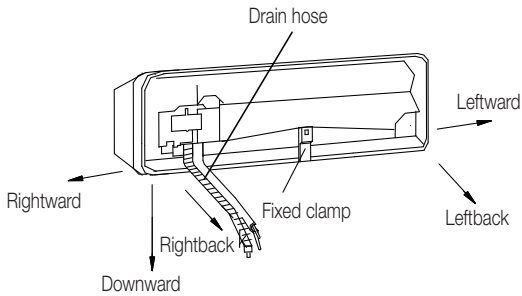

Fig. 7
1. Connecting right back tube (similar to right lower tube) (Optional, Refer to Fig.7)
Left chart is available for the position of drain hose, refer to Fig. 7.